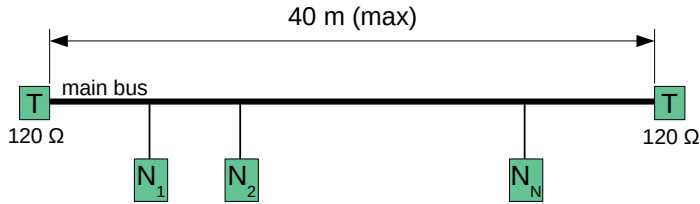

Figure 24: CAN line/bus topology principle used by Kanardia
CAN system can be used in different topologies. We are using line/bus type topology. Figure 24 shows schematic of this topology. It consists of one main CAN bus line and several devices (also referred to as nodes) are connected to the main bus via short connections. The connecting lines shall be short – up to 30 (50) cm, while the main line can be up to 40 meters long. Each side of the main bus line must have a terminator, which is a 120 Ω resistor.